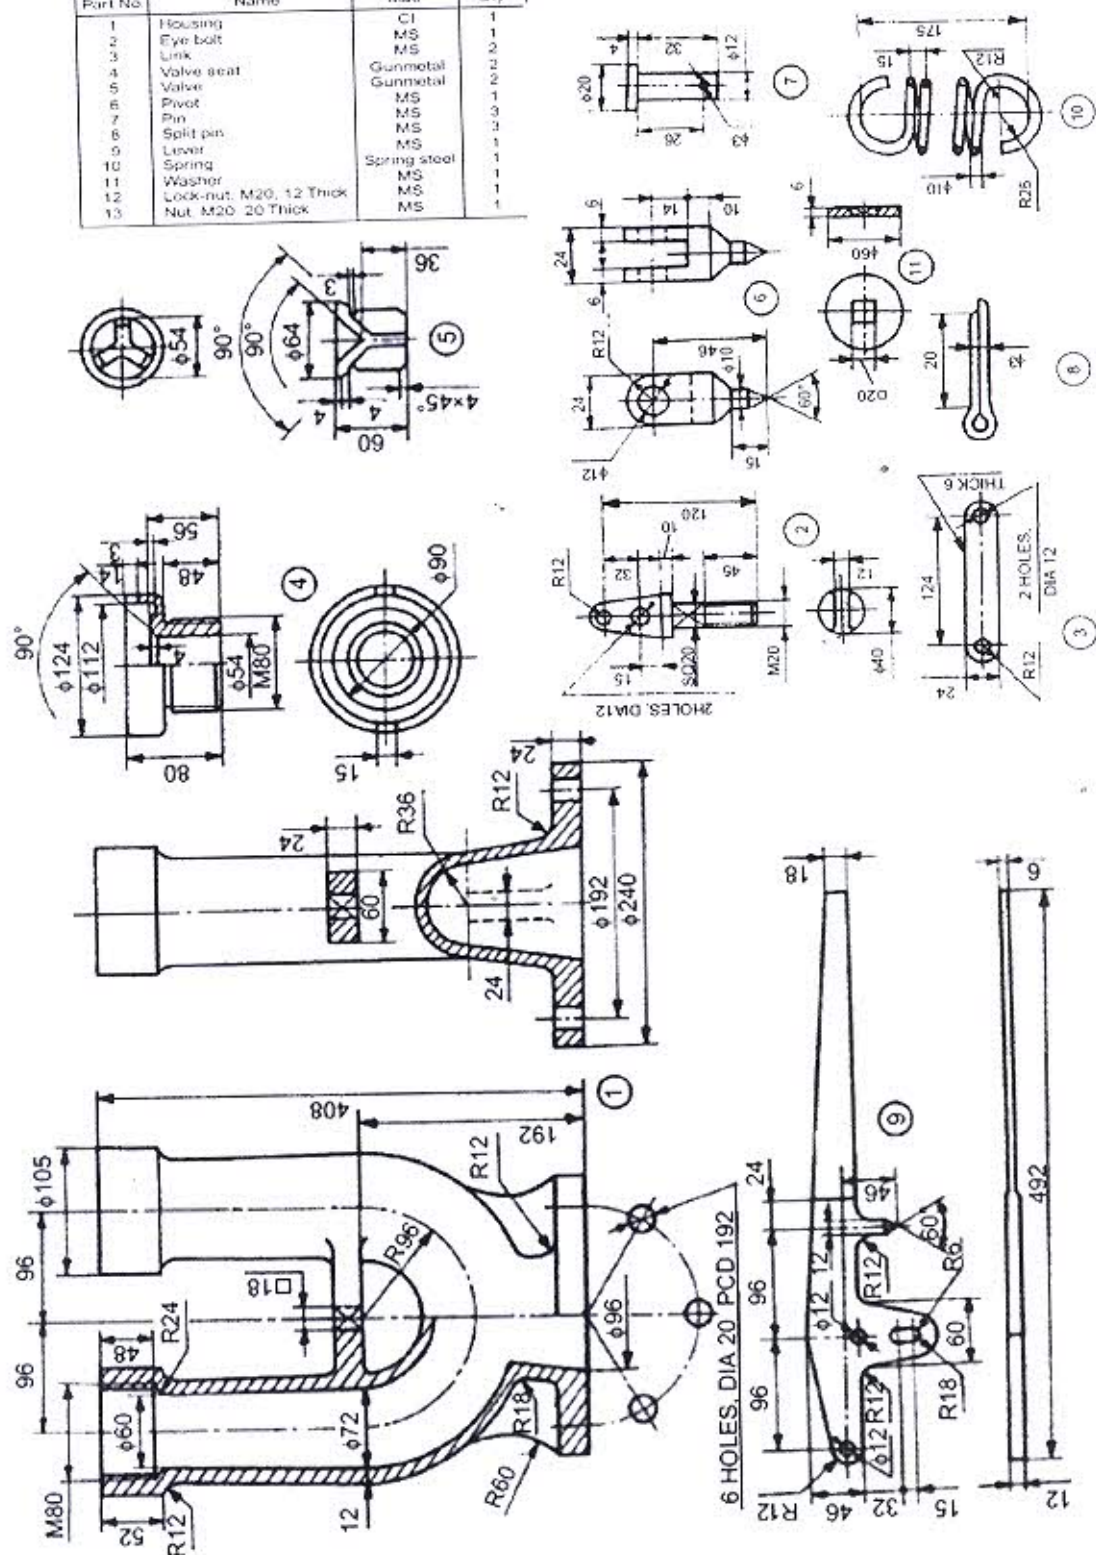

Figure 1
- Q. No. 5.** Following figure 1 shows the details of Rams bottom safety valve. Assemble the parts and draw i) Front view in half section ii) Top view **60 Marks**